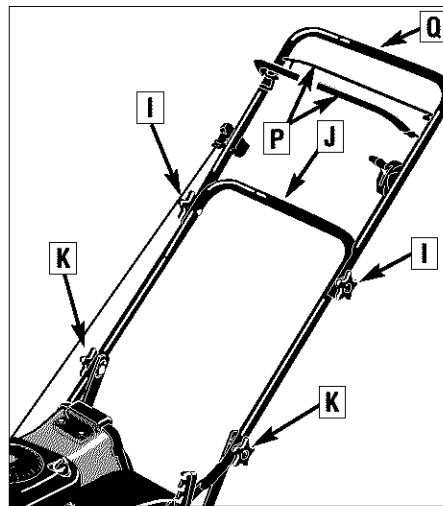
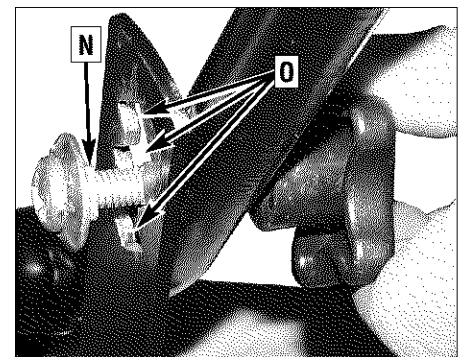

Figure 2-6: Fully assembled handlebar assembly.
Figure 2-7: Adjusting handlebar height.
2. The control bails (P, Figure 2-6) are secured to the handlebar (Q) with a cable tie. Cut the cable tie off and remove the protective packing material.
9. Check the starter rope. Make sure that it does not catch under the top handlebar adjustment knob (I, Figure 2-6). The starter rope should stretch unobstructed to the engine.
1. Loosen one of the lower handlebar adjustment knobs (K, Figure 2-6) and give the knob a tap inward to free the square shaft on the screw (N, Figure 2-7) from the keyed slot (O) in the handlebar strut. Repeat this step for the other side.
2. Move the handlebar strut up or down to align the square shaft (N, Figure 2-7) with one of the three square keyed slots (O). The middle slot is the medium height setting.